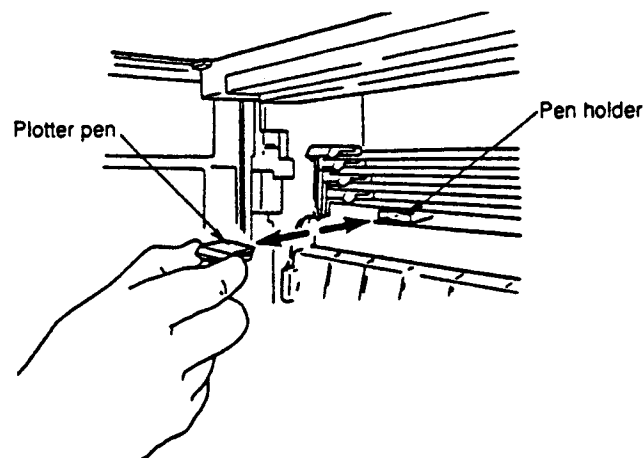

Figure 3-8. Plotter Pen Replacement
3. While grasping the plotter holder, gently slide the plotter out of the holder (see Figure 3-8).
4. Remove the pen cap and insert a new plotter pen in the holder (see Figure 3-8). If it is difficult to replace the plotter pen, use the "Second Procedure," which is described above.